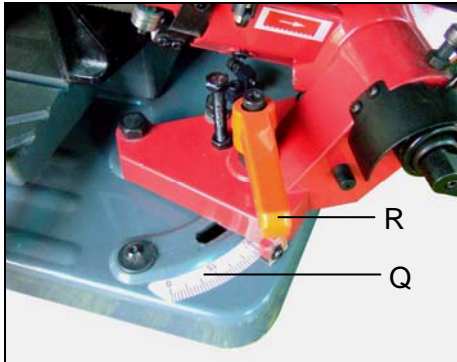

Fig. 15
The machine uses a swivel miter base for angle cutting from 0~45 degree. On the sawing arm, there is an indicator (Q) in Fig.15 attached. This machine is preset zero degree before leaving the factory. Angle cutting is adjusted as follows.
1. Loosen handle (R) Fig.15 to release the arm.